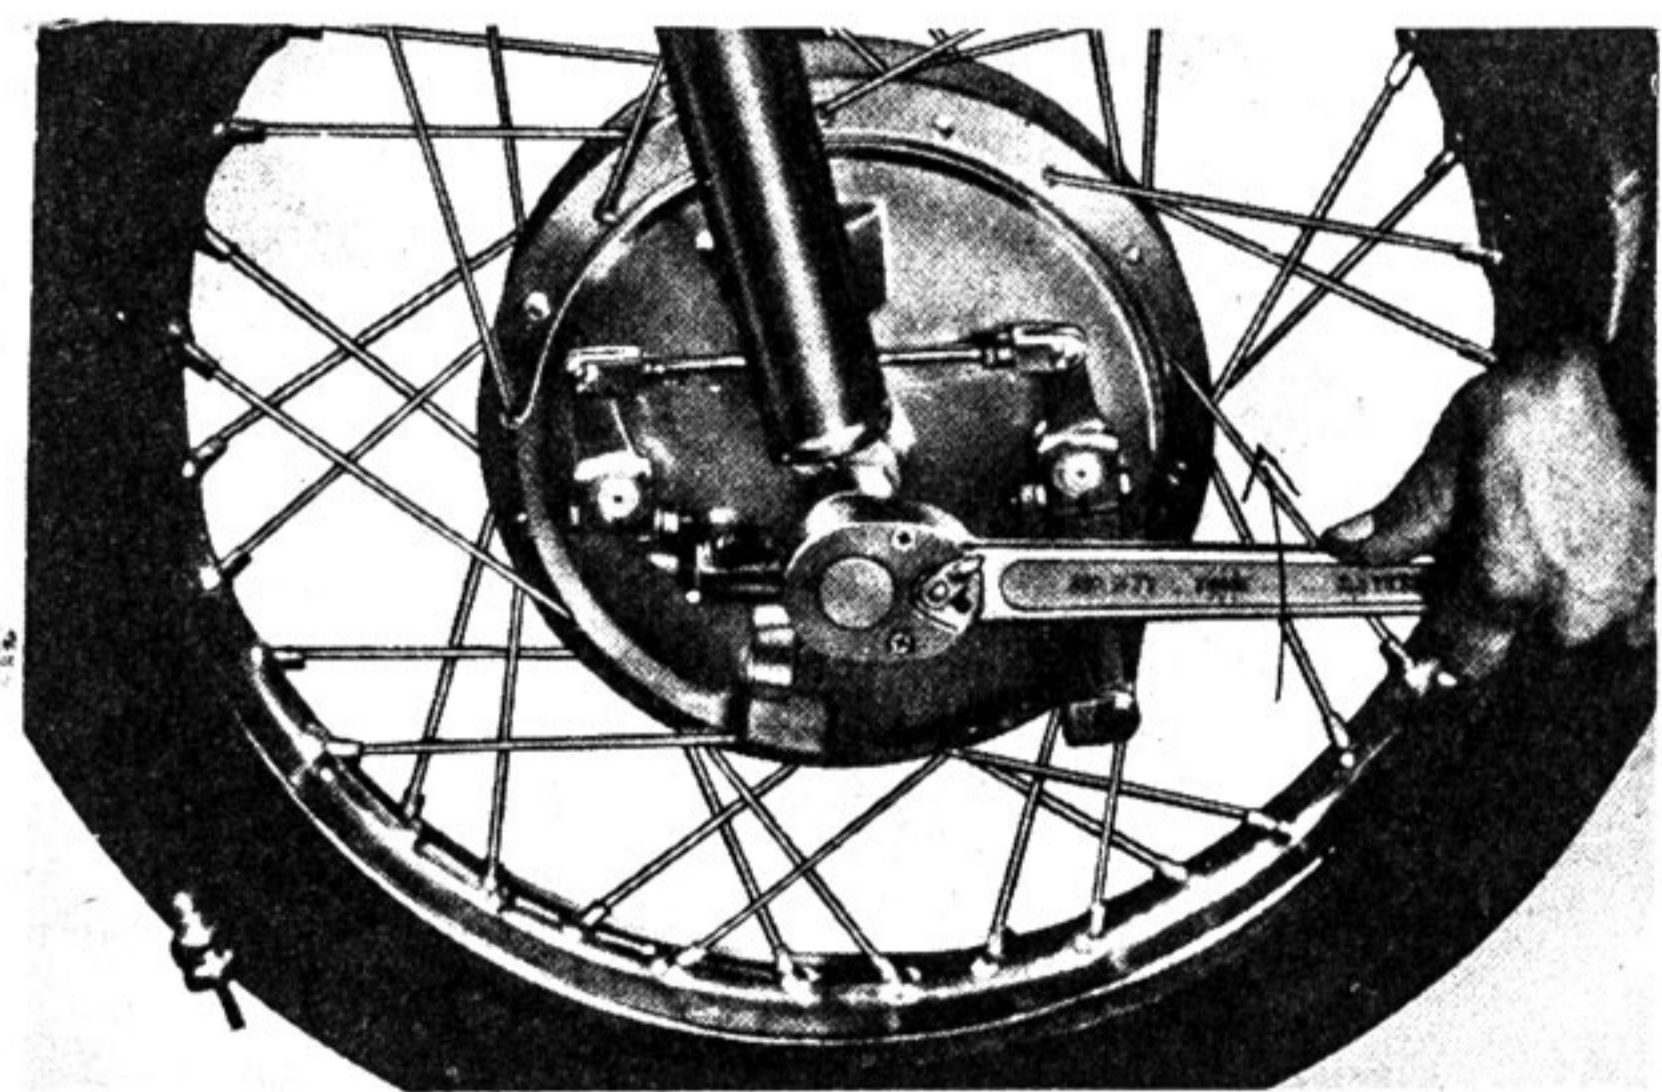

Fig. 5-1-3
(2) Remove the front wheel shaft nut. (Fig. 5-1-3)